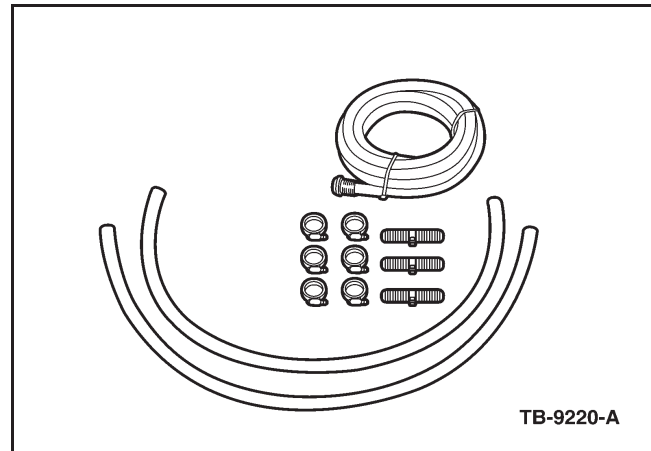

Figure 6 - Article 08-23-1
- a. Obtain two (2) hose coupling adapters and one (1) garden hose. The garden hose can be either a 5/8" or 3/4". The couplings can be 5/8" x 3/4" or 3/4" x 3/4" depending on the size garden hose used. On the vehicle the hose and thermostat ports are 3/4" in size. (Figure 6)